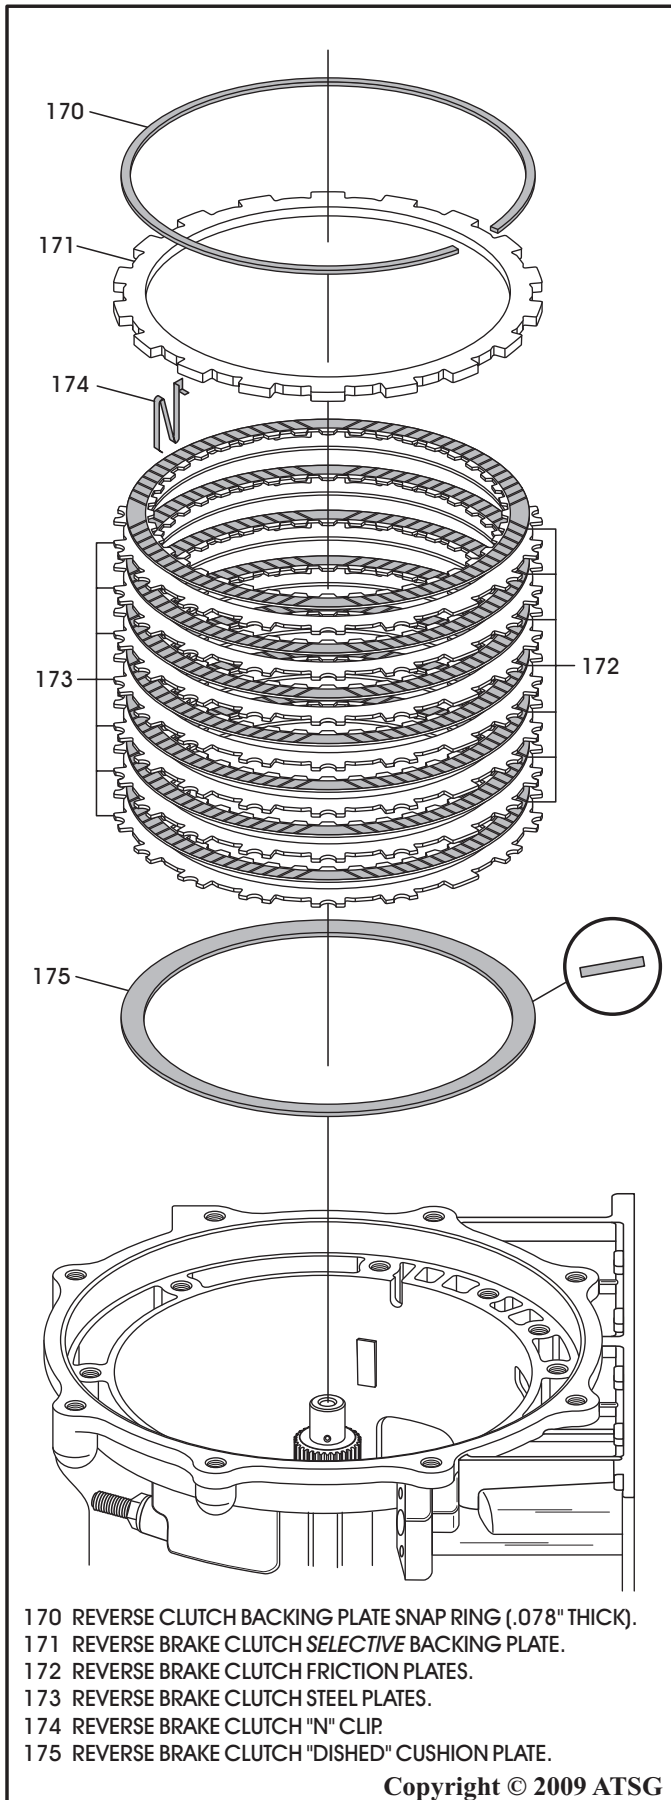

Figure 52
39. Remove the reverse brake clutch backing plate snap ring from case, as shown in Figure 52.
40. Remove the reverse brake clutch backing plate from case, as shown in Figure 52.
41. Remove the reverse brake clutch plates from the case, as shown in Figure 52.
- Note:** Notice there is an "N" spring located in one groove of case, as shown in Figure 52.
43. Remove reverse brake clutch "dished" cushion plate, as shown in Figure 52.